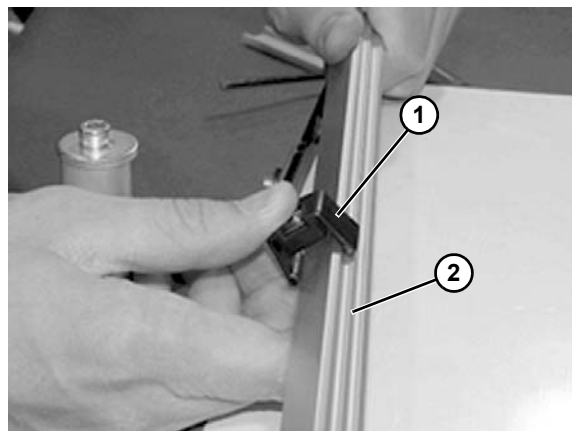

Figure 80
4. Snap clip (**Figure 80, item 1**) onto guide rail (**Figure 80, item 2**).